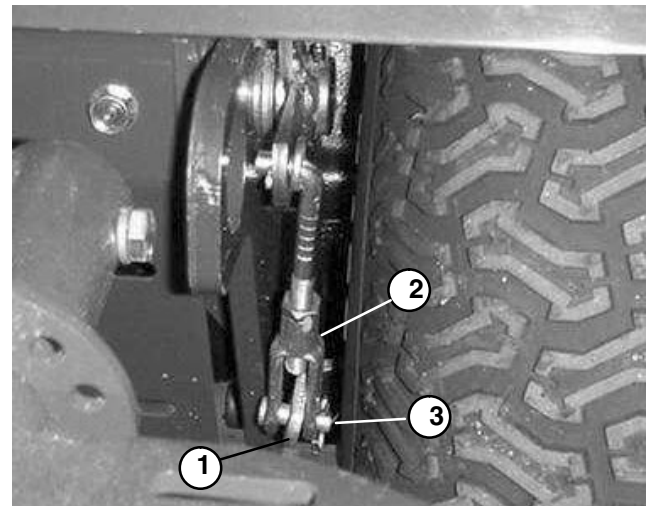

Figure 4
4. Remove lug nuts (13) and wheel assembly (15). Remove lock nut (14) from wheel motor shaft.
**IMPORTANT: DO NOT** hit wheel hub (11) with a hammer during removal or installation. Hammering may cause damage to the wheel motor.
5. Use a puller to remove the wheel hub (11) and brake drum (12). Remove the key (34) from the wheel motor shaft.
6. Remove brake return springs (31) from brake shoes (32). Remove brake shoes from backing plate (29).
7. Remove cotter pin (28) from the yoke pin (21). Remove yoke pin from the brake lever (22) and separate yoke (23) from the brake lever (Fig. 4).
8. Remove cap screws (9) and lock nuts (6) holding the backing plate (36) and brake grass shield (8) to the brake bracket.
9. Remove backing plate (29), flat washers (7), and brake grass shield (15) from the brake bracket.
10. If brake lever (22) is removed from brake cam shaft (30), match mark lever and shaft before disassembly to allow for correct reassembly alignment.
2. Secure flat washers (7), brake grass shield (15), and backing plate (29) to the brake bracket with the cap screws (9) and lock nuts (6). Tighten fasteners.
3. Connect brake lever (22) to the yoke (23). Install yoke pin (21) through the brake lever and yoke. Install and lock cotter pin (28) into the yoke pin (Fig. 4).
4. Install brake shoes (32) onto the backing plate (29). Install brake return springs (31) into the holes on each end of the brake shoes. Springs should be installed in opposite directions of each other.
5. Mount key (34) in the wheel motor shaft, then install the wheel hub (11) and brake drum (12) onto the wheel motor shaft.
6. Install the lock nut (14) onto the wheel motor shaft and torque from 250 to 400 ft-lb (339 to 542 N-m).